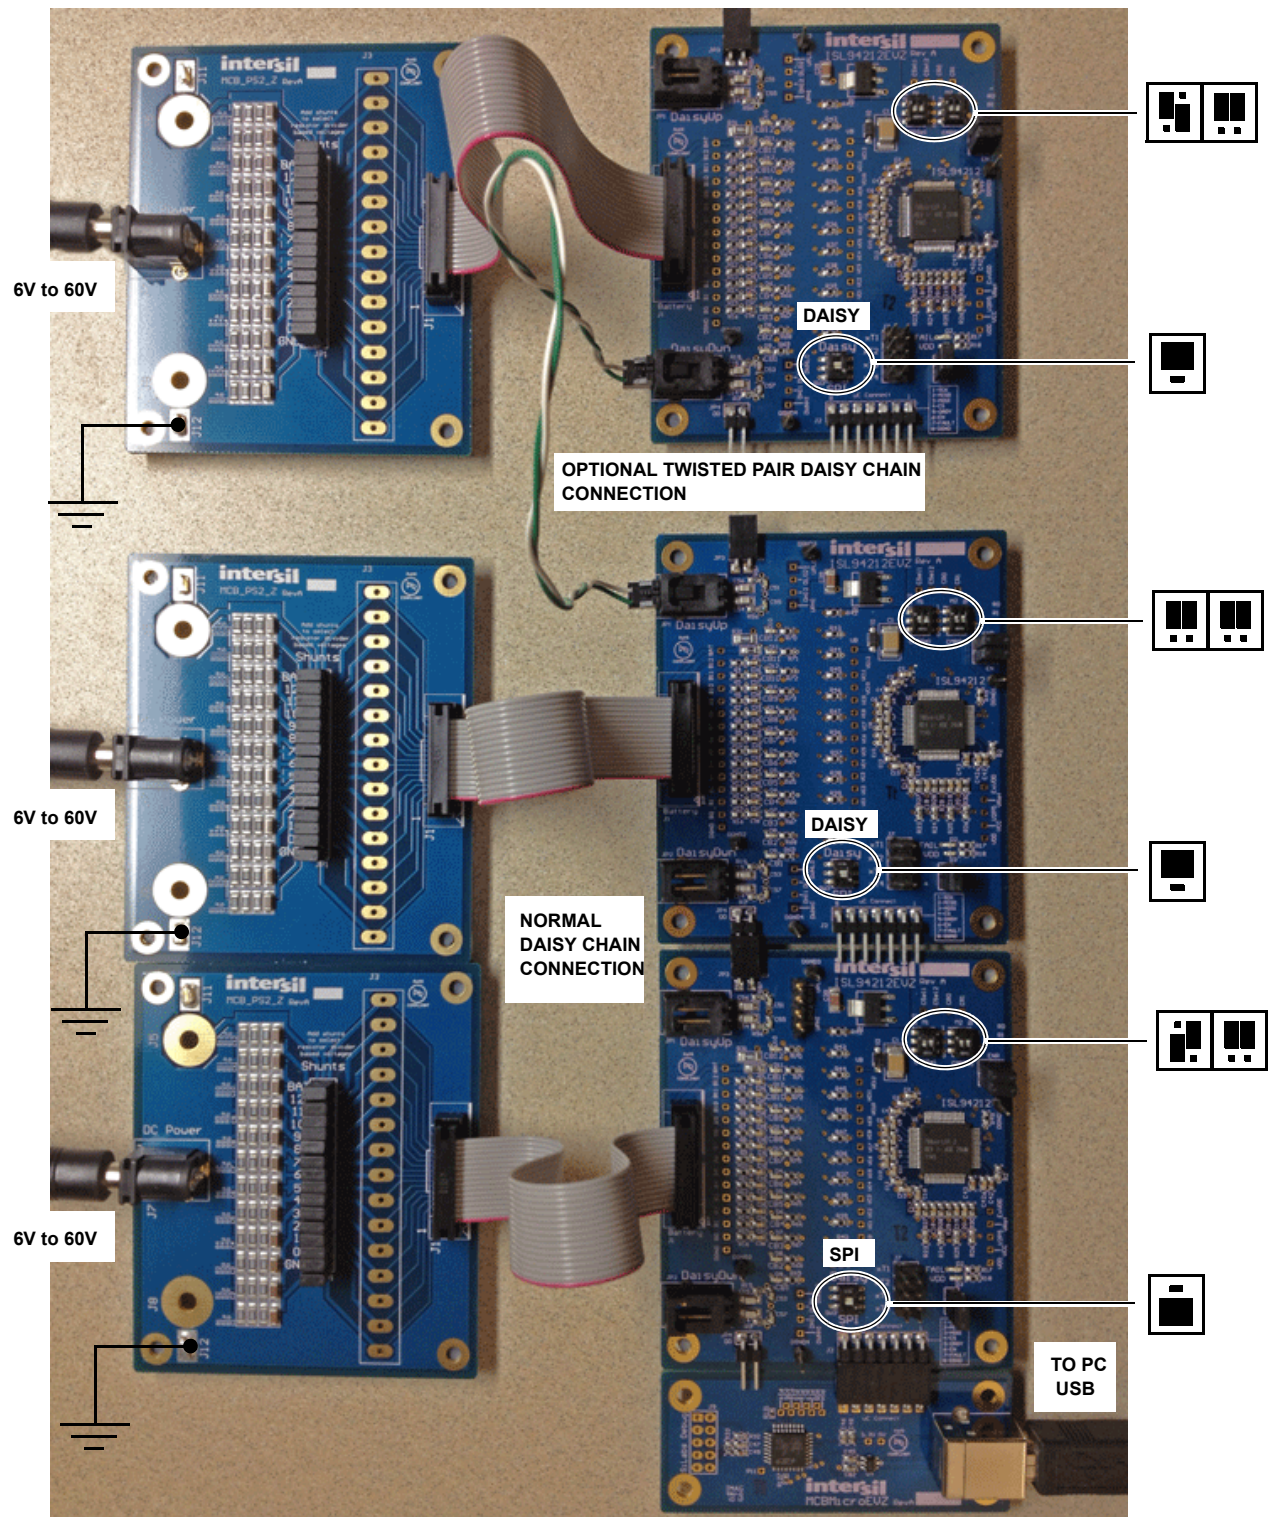
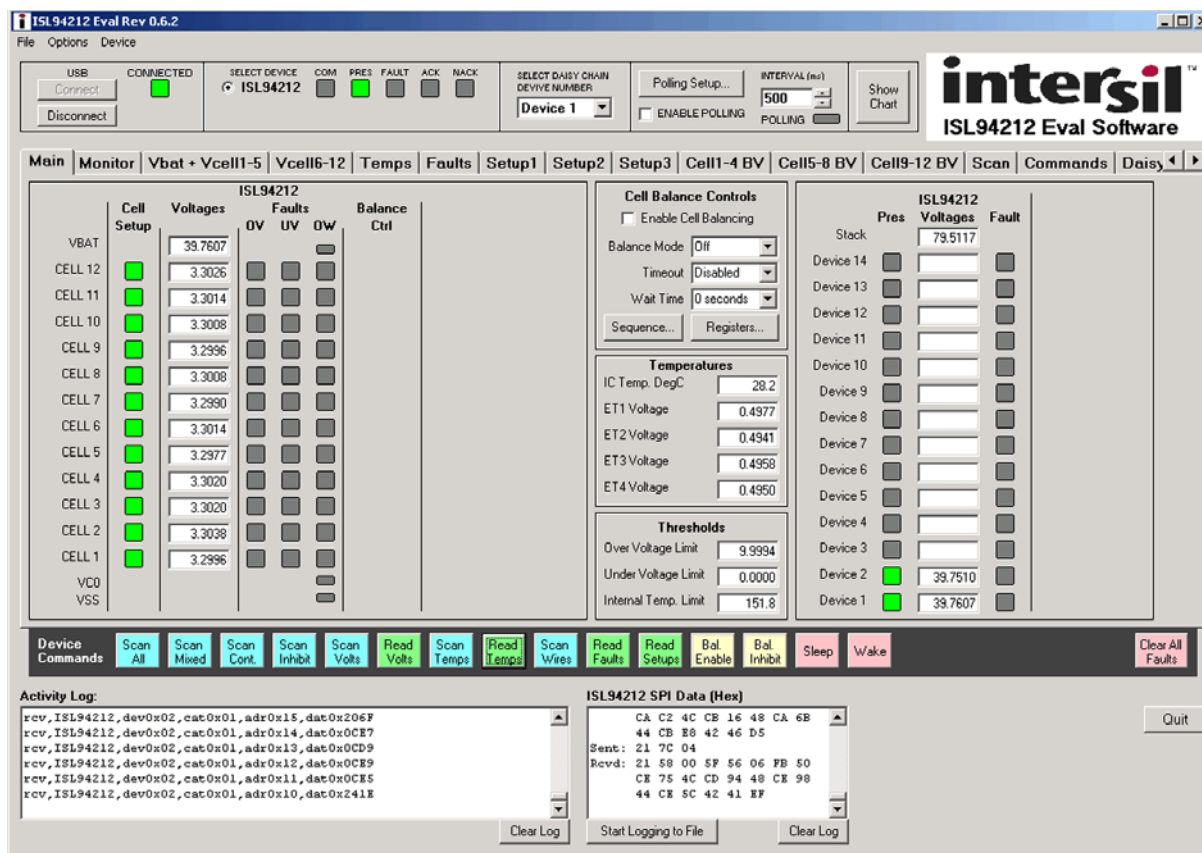

FIGURE 5. ISL94212EVZ IN 36-CELL DAISY CHAIN CONFIGURATION (SHOWN 1 ISL94212EVKIT1Z (MASTER) AND 2 ISL94212EV1Z (SLAVES))
FIGURE 6. MAIN GUI WINDOW - TWO CASCADED DEVICES
Step 2: Connect the MCB_MICRO_EVZ board (J1) to the Master ISL94212EVZ board (J2). (See Figure 5)
The boards can plug together to complete the daisy chain connections, or the enclosed twisted pair cable can connect the boards. Connect as shown in Table 2. See also the 36-cell daisy chain connection Figure 5 on page 7. For a 24-cell connection, drop out the Middle board.
- Step 3:** The GUI program identifies the devices connected, either in a single board, or a daisy chain configuration, (See Figure 6). NOTE: Figure 5 on page 7 shows the daisy chain configuration.